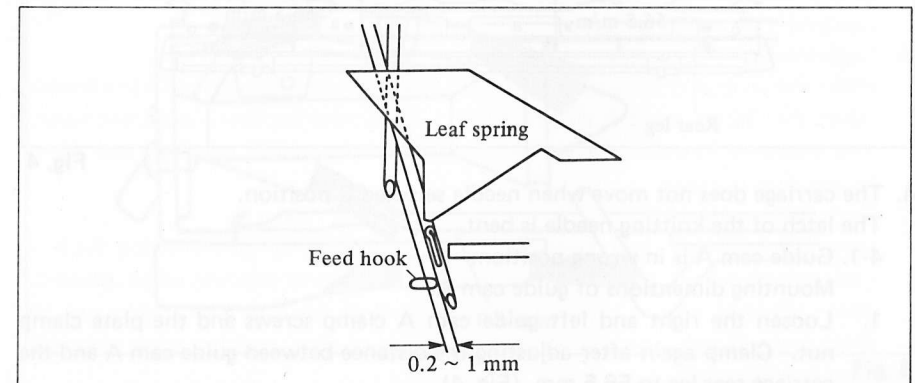

Fig. 9
- 3-3. By referring to Fig. 9, adjust the feed hook so as to have a gap of 0.2—1 mm between the crossed catch needles.